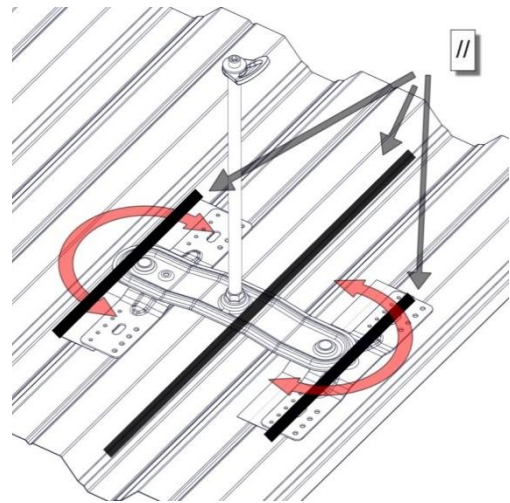

Figure 7. Positioning of post before installation
- For trapezoidal sheets with a thickness of 0.5mm - 0.63mm, the post should be riveted to the ground using BRALO rivets [F] **Figure 7**. Before inserting rivets in trapezoidal sheet, drill holes with a diameter of 8mm.
- Position plates [B] parallel to the shape of trapezoidal ridge of trapezoidal sheet **Figure 7**
- For a given spacing of trapezoidal ridges of the sheet, set swivel plates [B] so they are parallel to the trapezoidal sheet **Figure 7**.